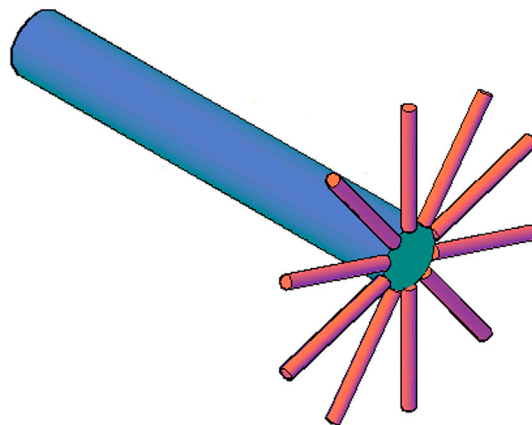

FIGURE 22.16 Completed 3D polar array.
Step 8. Here, you need to pick the second center point using OSNAPs on the other side of the axle. These two points together indicate the axis of rotation for the spokes. The result is shown in Fig. 22.16.